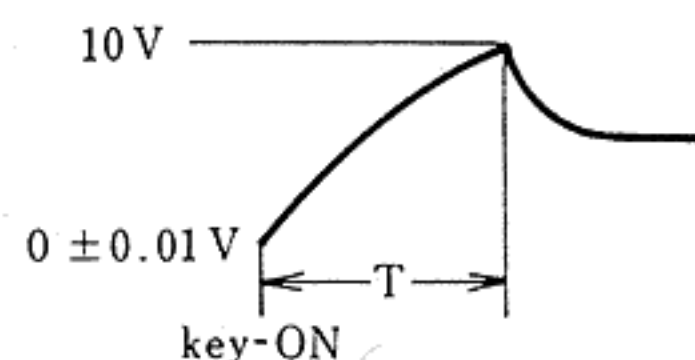

Fig. 2
Now, when the C3 key is switched ON (KV terminal;  $+250 \pm 0.1$  mV), adjust **VR 5** according to Fig. 2.
Turn ATTACK TIME lever (PVR15) until  $+8 \pm 0.2\text{V}$  appears at TP4. Adjust **VR 9** so that the rising curve as shown in Fig. 2 is obtained from terminal C (③-7) with T of  $4 \pm 0.1\text{mS}$  when the key is ON (-7V is applied to terminal TR (①-5). Also adjust **VR 8** so that the voltage is levelled off at  $0 \pm 0.01\text{V}$  5 seconds or later after the key is ON.
a. The waveforms shown in Fig. 1, Fig. 2, Fig. 3 and Fig. 4 should be obtained at terminals  (③-8),  (③-7),  (③-9) and  (④-1) respectively.